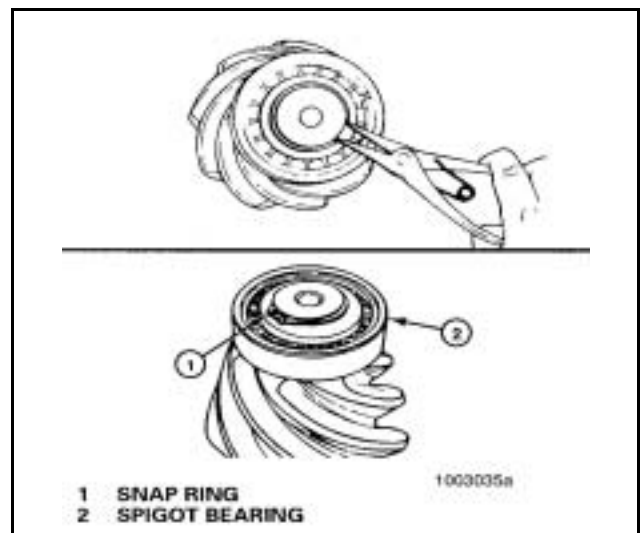

Figure 57
- c. Install the snap ring* into groove in end of drive pinion with snap ring pliers. **Figure 57.**